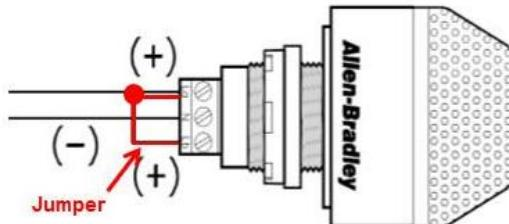

Figure 4-13: Jumper on RSL
- A. mounted on the ROBOT such that it is easily visible while standing three (3) ft in front of the ROBOT,
- C. wired for solid light operation, by placing a jumper between the "La" and "Lb" terminals on the light per Figure 4-13.